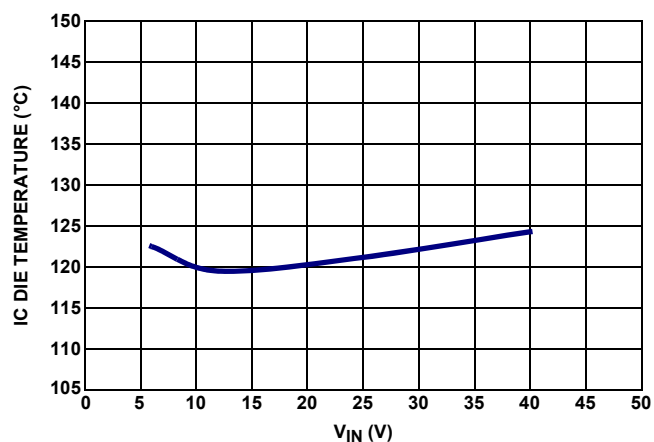

FIGURE 12. IC DIE TEMPERATURE UNDER +105°C AMBIENT TEMPERATURE, 100 CFM, 500kHz, $V_{OUT} = 5V$, $I_O = 2A$
Second: From the thermal perspective, the die temperature shouldn't be above +125°C with the power loss dissipated inside of the IC. Figures 12 through 14 show the thermal performance of this part operating at different conditions. The part can output
Figure 12 shows a 5V, 2A output application over V_{IN} range under +105°C ambient temperature with 100 CFM air flow.
Basically, the die temperature equals the sum of ambient temperature and the temperature rise resulting from power dissipated from the IC package with a certain junction to ambient thermal impedance θ_{JA} . The power dissipated in the IC is related to the MOSFET switching loss, conduction loss and the internal LDO loss. Besides the load, these losses are also related to input voltage, output voltage, duty cycle, switching frequency and temperature. With the exposed pad at the bottom, the heat of the IC mainly goes through the bottom pad and θ_{JA} is greatly reduced. The θ_{JA} is highly related to layout and air flow conditions. In layout, multiple vias (20) are strongly recommended in the IC bottom pad. In addition, the bottom pad with its vias should be placed in ground copper plane with an area as large as possible connected through multiple layers. The θ_{JA} can be reduced further with air flow. Refer to Figure 12 for the thermal performance with 100 CFM air flow.